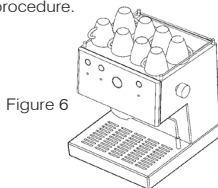

Figure 6
9. Espresso is best at optimal temperature (40°C/105°F). (See figure 6)